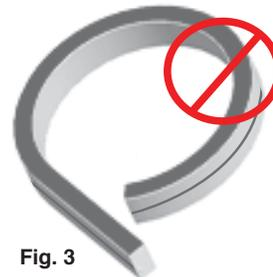

Fig. 3
- 3) Do not (side) bend the product in the direction shown (Fig. 3)